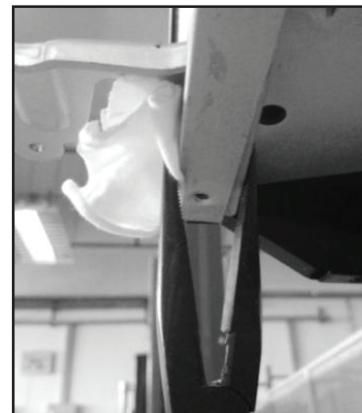

FIGURE 10
- If it is still difficult to insert the bracket, repeat step 8 to make more space or use long nosed pliers to clamp (be sure to protect surface by using a soft cloth to avoid scratching the cabinet front). See *Figure 10*.